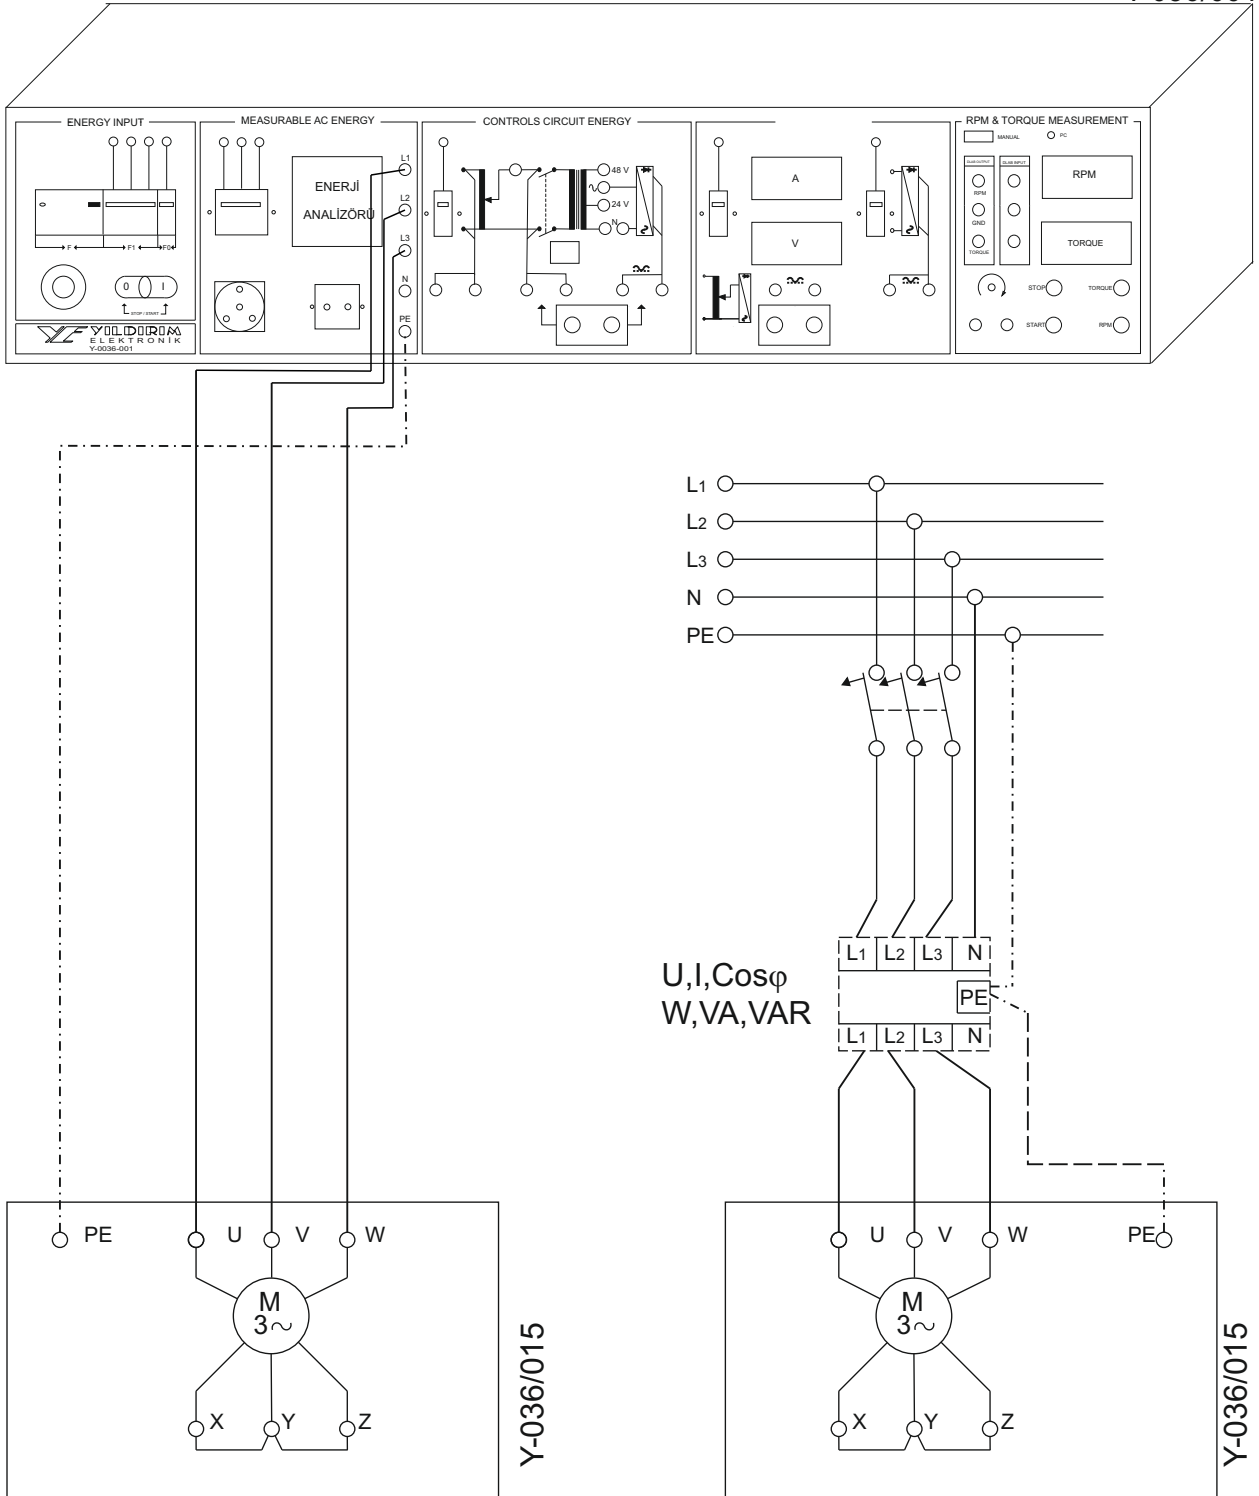

Figure 32.1: The connection diagram for the no-load operation of the 3-phase asynchronous motor.
- Connect the circuit shown in the figure: 32.1.
- Observe and take note of the starting parameters (I) of the motor.